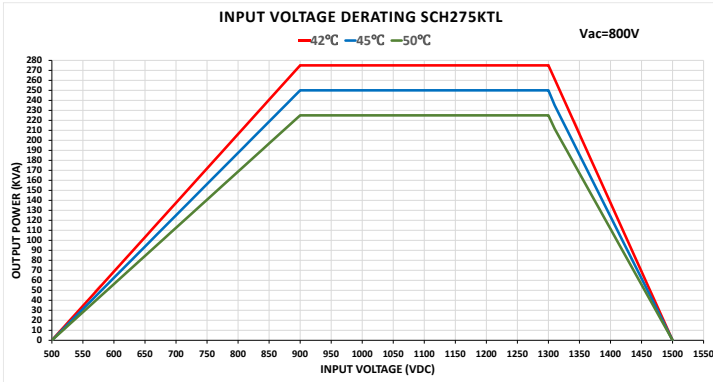

Figure 9-1 Derating curve with DC input voltage
1. When the DC input voltage is lower than 900V or higher than 1300V, the inverter begins derating. Once the input voltage is between 900-1300V, the inverter supports full output power. Derating curve of PV input voltage are as shown in Figure 9-1.